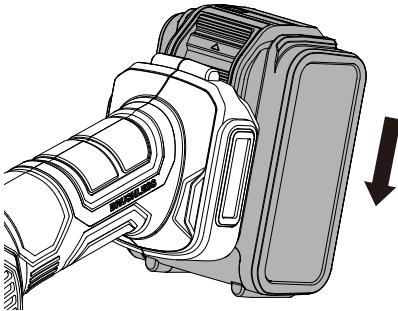

Figure 5-1
5. INSTALLING & REMOVING THE BATTERY PACK (NOT SUPPLIED) (SEE FIG. 5-1 & 5-2)